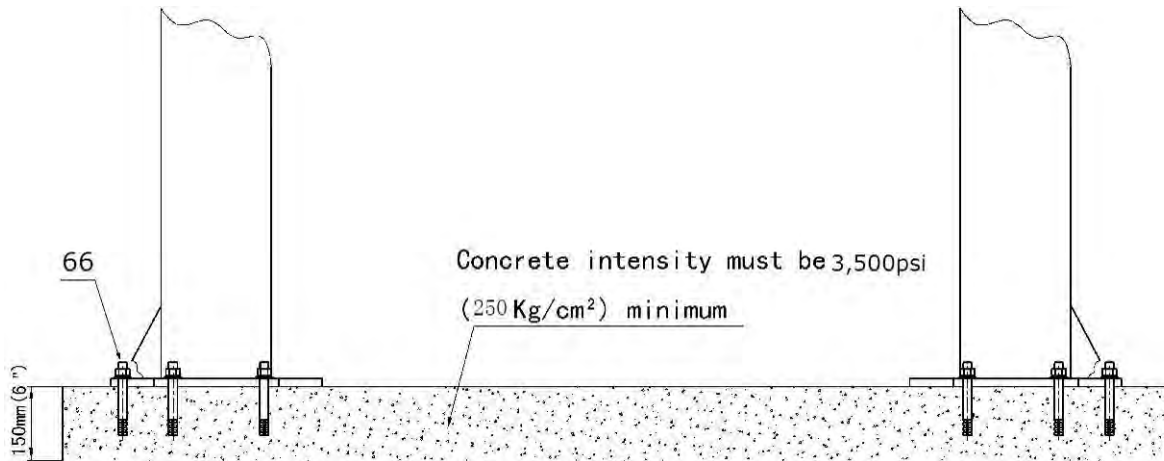

Fig. 3
B. CONCRETE SECIFICATIONS (See Fig. 3).